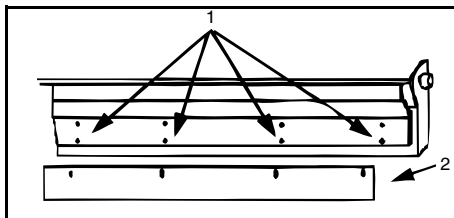

Figure 74.
- 1) Loosen all four blade support cap screws [1], Figure 74. Allow blade to slide to bottom of its slots.
NOTICE - Clean slots if necessary. Make sure blade [2], Figure 74, is at the bottom. Torque cap screws to 60 ft/lb.